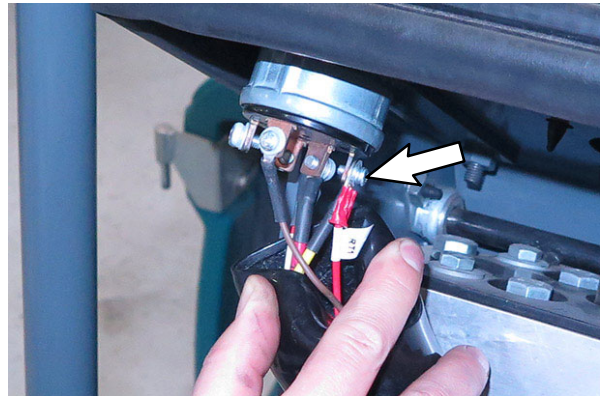
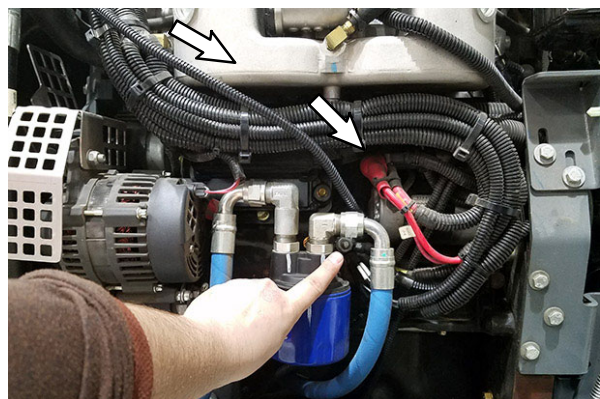
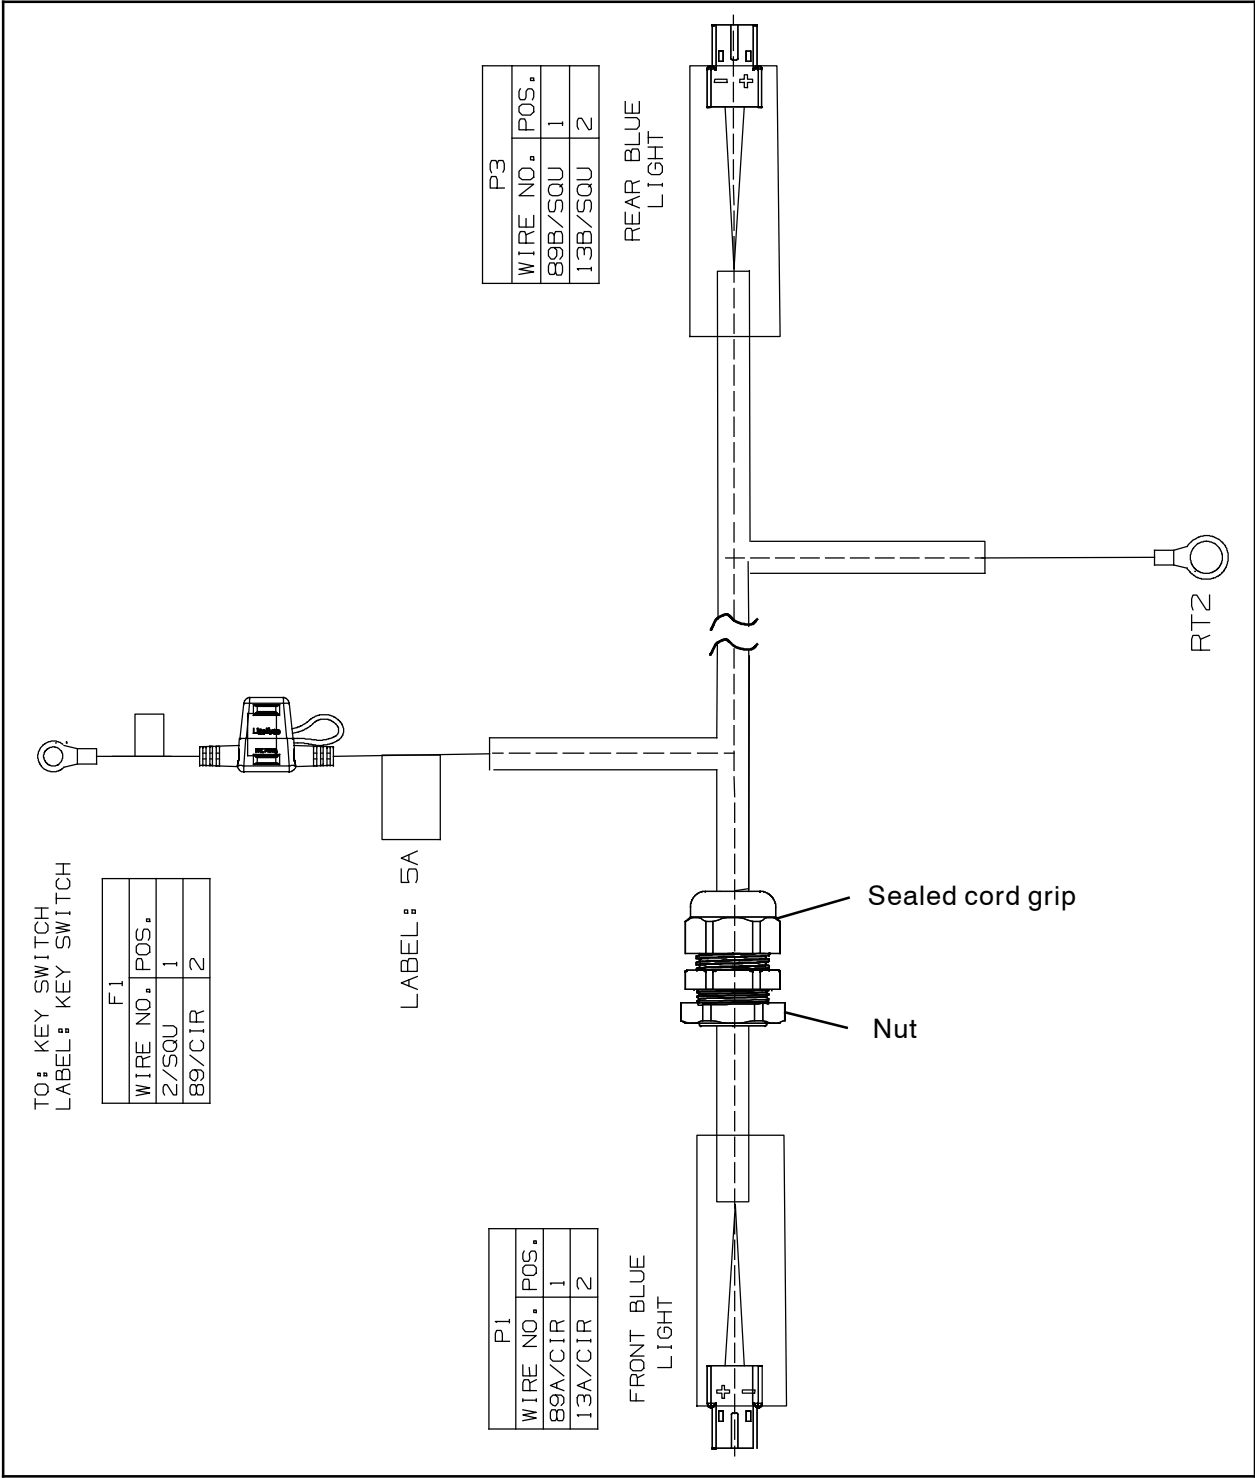

FIG. 12
FIG. 14
FIG. 22
17.Connect the blue spotlight harness (14) to the blue LED spotlight (1) installed on the front shroud. (Fig. 10/Fig. 22)
20.Route the blue spotlight harness (14) ignition switch lead along the main wire harness, through the battery compartment so harness will be behind the battery, and to the ignition switch.
21.Lower the rubber boot from the ignition switch and connect the blue spotlight harness (14) to the ignition switch. Slide the boot back onto the ignition switch (Fig. 12/Fig. 22)
23.Route the blue spotlight harness (14) ground lead down to the engine ground and connect it to engine ground. (Fig. 14/Fig. 22)
- T20 Only:** Continue routing the blue spotlight harness (14) rear blue light lead up to the blue LED spotlight (1) assembly installed on the solution tank.
28. Connect blue spotlight harness (14) to the blue LED spotlight (1). (Fig. 21/Fig. 22)